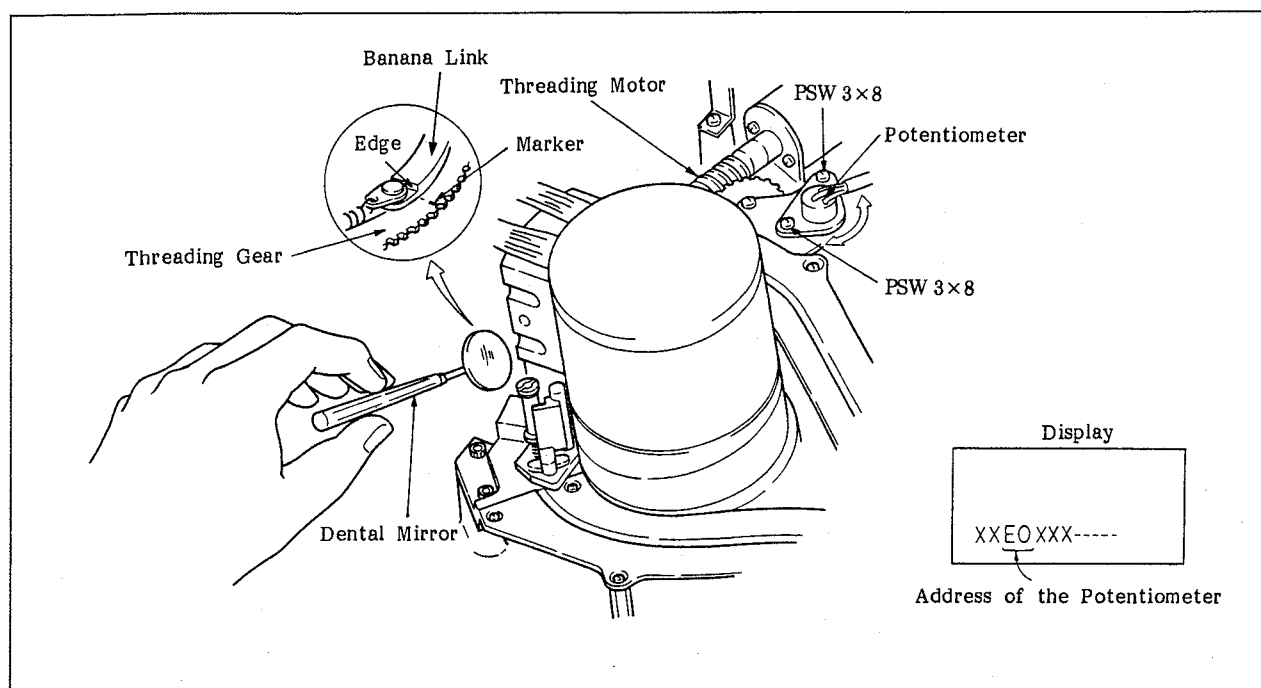

Fig. 6-63. Adjustment of the Address of the Potentiometer in Threading Condition
- Press the **F3** (C), **4**, **SET**, **F6** (F), **2**, **SET**, and **<** keys on the control panel in that order to set the machine in threading condition without loading a cassette tape.
- Place the dental mirror in a position where the threading gear and the banana link can be observed, as shown in Figure 6-63.
- Check that the two-digit number (address of the potentiometer) shown on the display is "E0 + 1", as shown in Figure 6-63. If it is not satisfied, loosen the two screws (PSW3 x 8) that hold the potentiometer, and then adjust it by rotating the potentiometer. Tighten the two screws firmly after adjustment.
- Press the **F3** (C), **4**, **SET**, **F6** (F), **2**, **SET**, and **>** keys on the control panel in that order to set the machine in unthreading condition.
- Check that pin S is in contact with pin T as shown in Figure 6-63. If it is not, rotate the threading motor manually so that pin S becomes in contact with pin T.